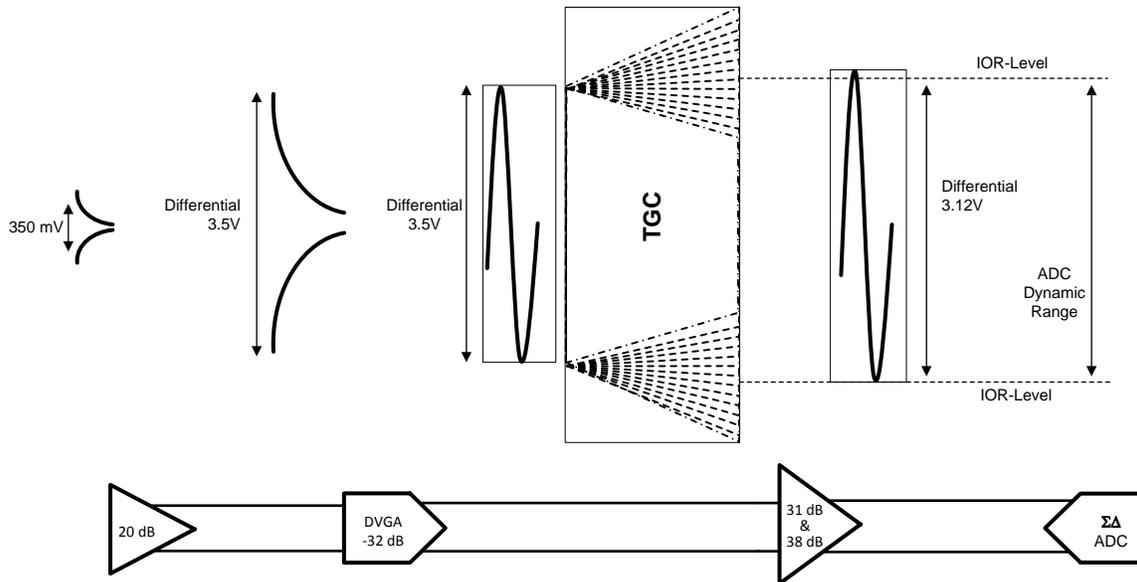

Figure 3. Typical TGC Operation at 5MHz
Going into more details, Figure 3 shows an example of B-mode TGC in action. As shown, a 5 MHz ultrasound signal enters the LNA with 350 mVPP single ended Near Field (NF) amplitude and 3.5 VPP differential NF amplitude appears at the LNA output (differential gain = 20dB) where the TGC equalizes the signal so that the ADC FS range of 3.12 VPP can be transversed to maximize the data acquisition resolution. Note that this is just an example taken from the *LM96511 Ultrasound Receive Analog Front End (AFE) Data Manual (SNAS476)*.